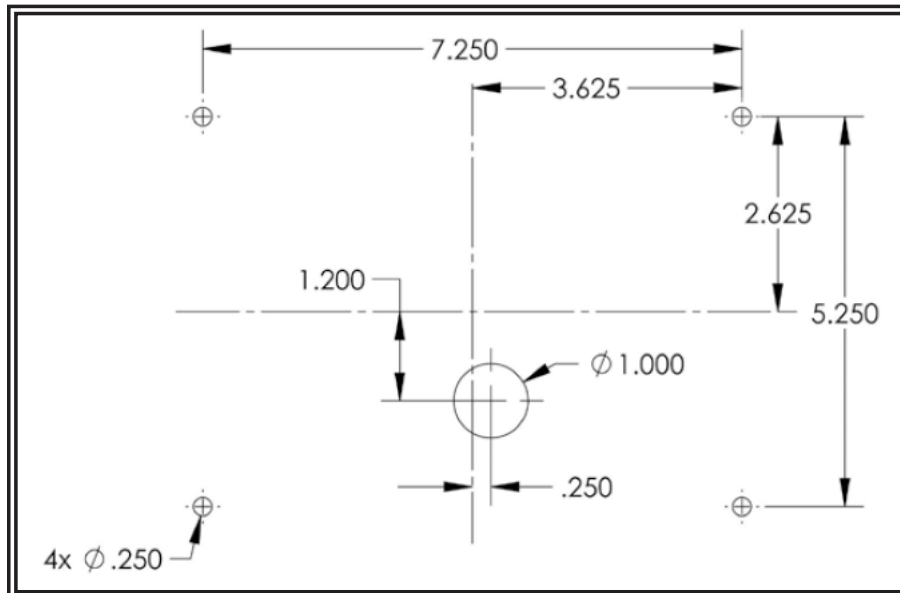

Figure 4
Step 1. Mark off and drill four ¼" diameter mounting holes and the 1" wire hole on the vehicles mounting surface using the dimensions shown for the appropriate light (refer to Figures 4, 5 & 6). Verify free clearance exists behind the mounting surface for wires and fasteners before drilling.